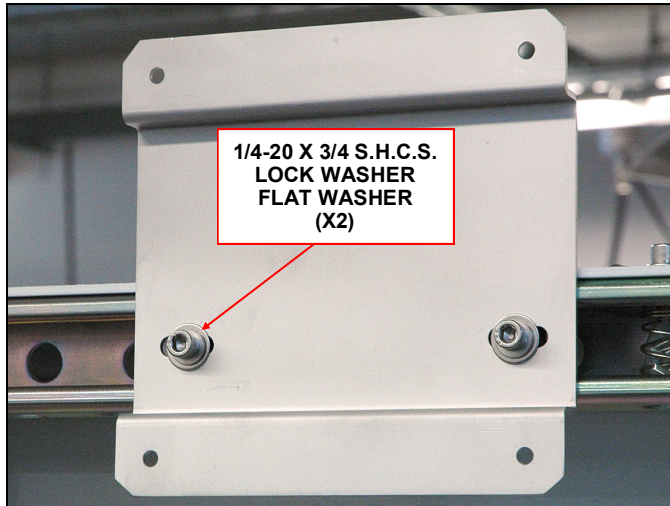

Figure 2-17: Attach Controller Mounting Bracket to Frame
Secure with two (2) sets of 1/4-20 x 3/4 socket head cap screws, flat washers, lock washers and self-holding nuts. See **Figure 2-17**.